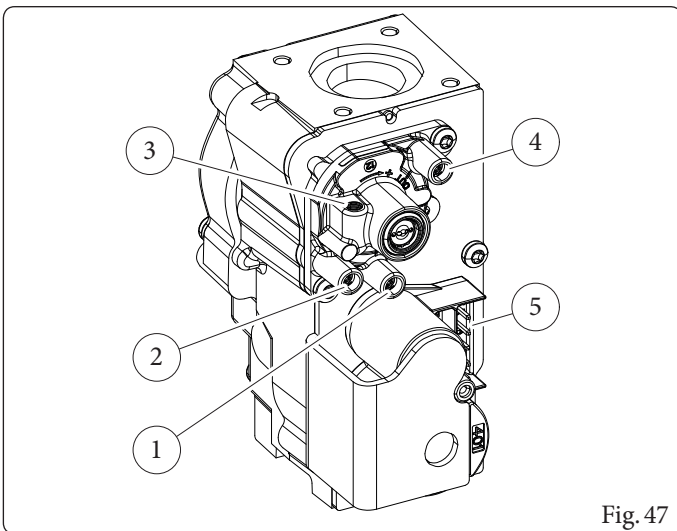

Fig. 47
Key (Fig. 47):
Switch on the appliance and activate the chimney sweep function at minimum power (0 %); check that the CO₂/O₂ value is as indicated in the tables in Para. 4.2 depending on the model concerned; if not, adjust the screw (Ref. 3, Fig. 47) (connection for pressure regulator). To increase the CO₂/O₂ value, turn the adjustment screw (3) clockwise and vice versa to decrease it.